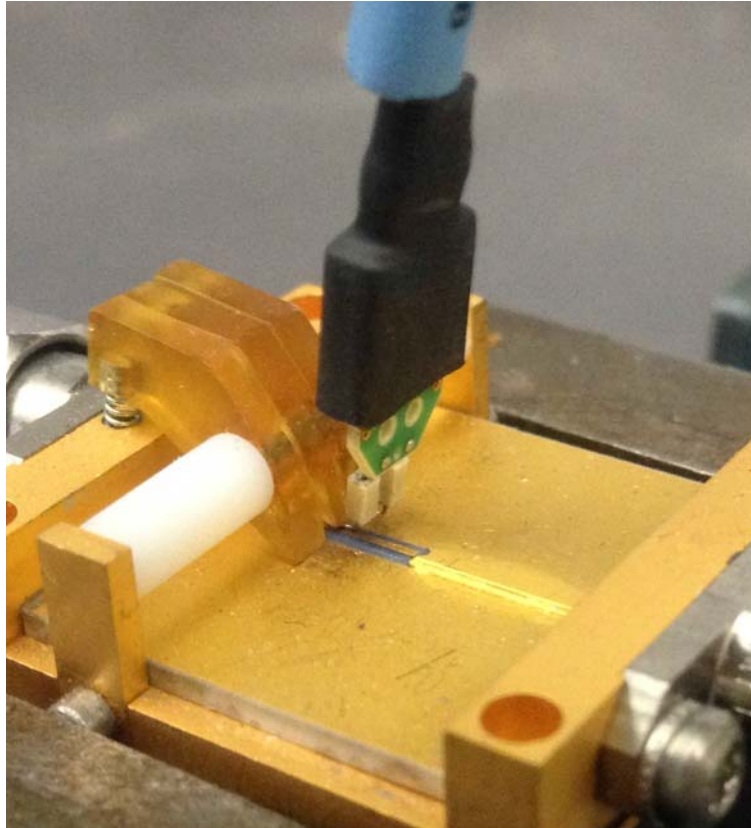

Figure 100 Close-Up of Tip Wires Positioned Under Pincher
- c Depress the actuators on the pincher and carefully insert one wire under the center pincher and the other wire under one of the side pincher. Either polarity of the probe can be tested and will yield the same results (but opposite phase) if the probe is working properly. **Figure 100** on page 132 shows a close up of the tip wires positioned under the pincher.